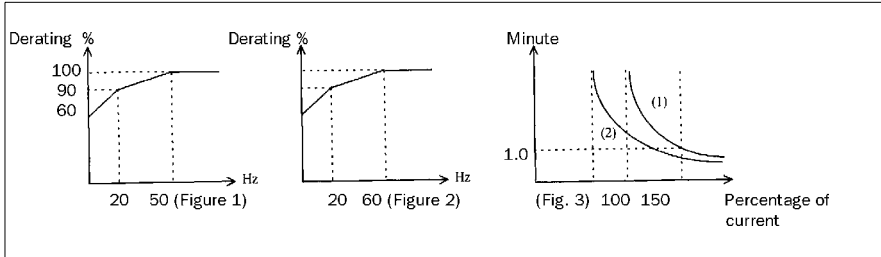

Fig. 22
2. When the load is within 100% of the motor rated current, the operation continues. When the load reaches 150% of the motor rated current the operation may continue for only 1 minute. (refer to curve (1) in Fig. 22)
4. When the motor is operating at low speed, the heat dissipation efficiency is lowered. The electronic thermal activation level is reduced also (change from curve (1) to curve (2) in Fig. 22). Choose appropriate Fn_05 setting according to applied motor to reach a better protection.
1. When the load is within 103% of the inverter rated current, the operation continues. When the load reaches 150% of rated current of the inverter, operation may continue for 1 minute only (refer to curve (1) of Fig. 22)